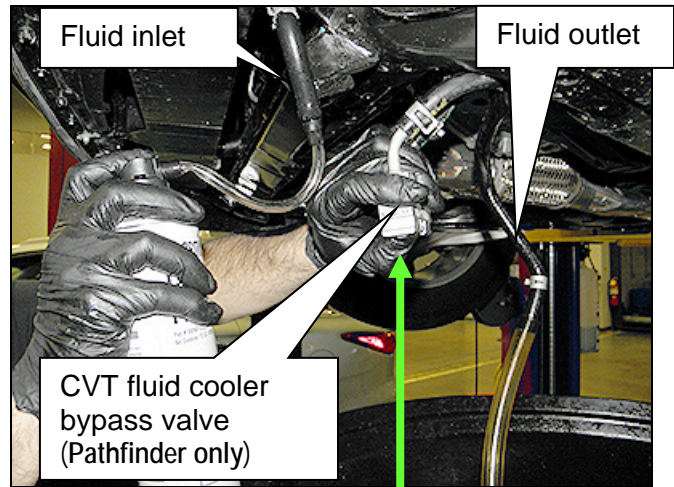

Figure 3
8. Insert the “extension adapter hose”, from a can of Transmission Cooler Cleaner (Nissan P/N 999MP-AM006P), into one or the other of the disconnected CVT fluid cooler hoses (Figure 3).
- For Pathfinder block the CVT fluid cooler bypass valve fluid passage (Figure 3) with thumb.
14. Now reverse the direction that the hoses are being flushed (Figure 3) and repeat steps 8 through 12 twice.